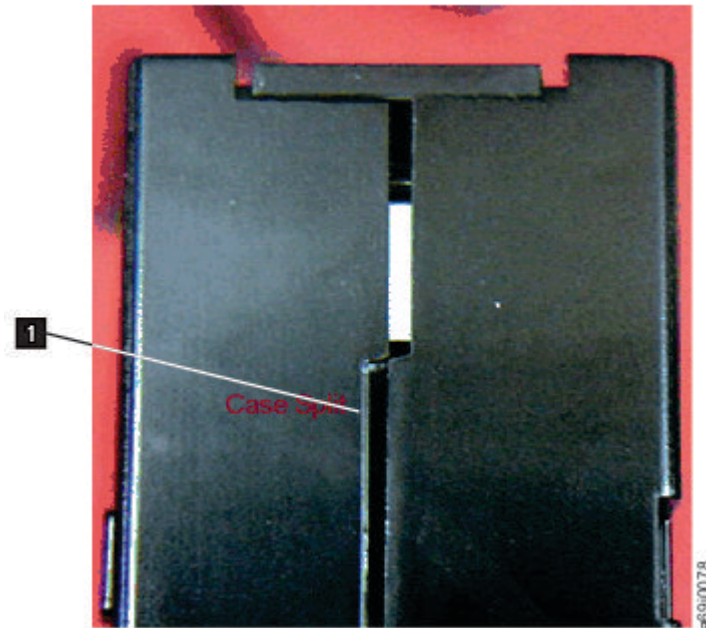
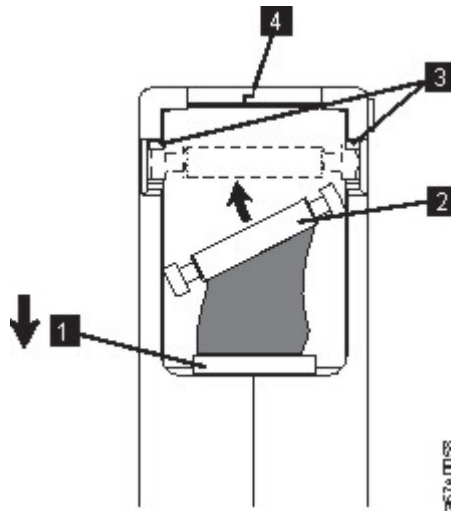

Figure 94. Checking for gaps in the seams of a cartridge
Figure 96. Placing the dislodged leader pin into the correct position. The cartridge door is open to show the leader pin.
- Inspect the rear of the cartridge (the part that loads first into the tape load compartment) and ensure that no gaps appear in the seam of the cartridge case. See **1** in Figure 94 on page 158 and **4** in Figure 96 on page 160. If gaps appear in the seam (see Figure 94 on page 158), the leader pin might be dislodged. Go to “Repositioning or reattaching a leader pin” on page 159.
Split cartridge case. See Figure 94.
1. Slide open the cartridge door (**1** in Figure 96 on page 160) and locate the leader pin **2** (you might need to shake the cartridge gently to roll the pin toward the door).